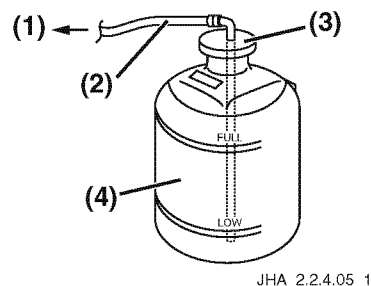

Figure 4-29
6. Remove the coolant recovery tank cap (Figure 4-29, (3)) and fill with coolant mix to the lower limit.
8. Check the rubber hose (Figure 4-29, (2)) connecting the coolant recovery tank (Figure 4-29, (4)) to the heat exchanger for damage and security, making sure there are no loose connections.